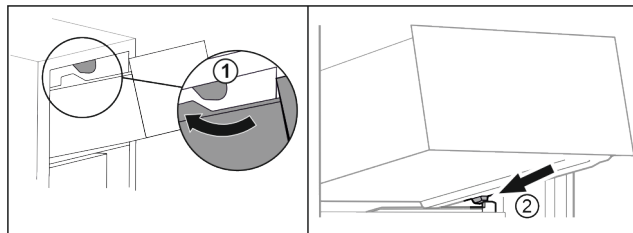

Fig. 27
- Guide drawer around the upper stoppers. Fig. 27 (1)
- Place drawer at an angle behind the lower stoppers on the molded rib. Fig. 27 (2)